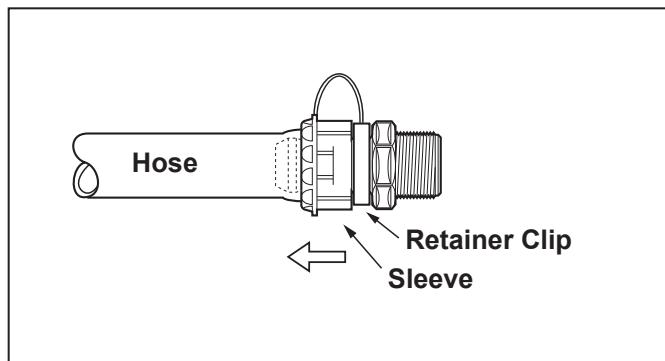

Figure 6. Install the Retainer Clip
6. Holding the hose in place, pull and twist the sleeve on the quick connect over the hose as far as possible. Snap the clip into place. See Figure 6.
NOTE The retainer clip must be installed. If the sleeve cannot be positioned on the quick connect to allow the retainer clip to slide in place, see Figure 6. Wet the inside of the hose in clean water and try again.
1. Verify that the installation is correct. Refer to Figure 6.